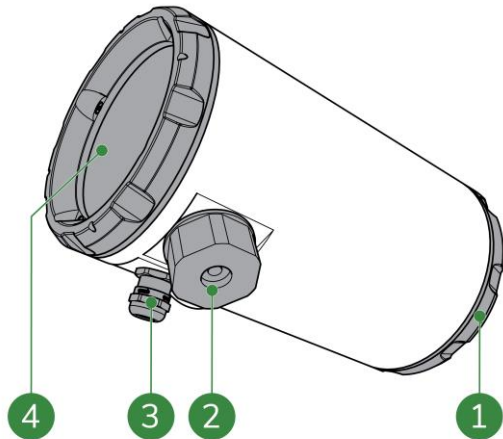

Figure 8-1: SDM ECO general maintenance parts
1. Check if the cable glands (Figure 8-1, pos. 2 and pos. 3) are tightened.
2. Check if the front and back lid (Figure 8-1, pos. 1 and pos. 4) are tightened.